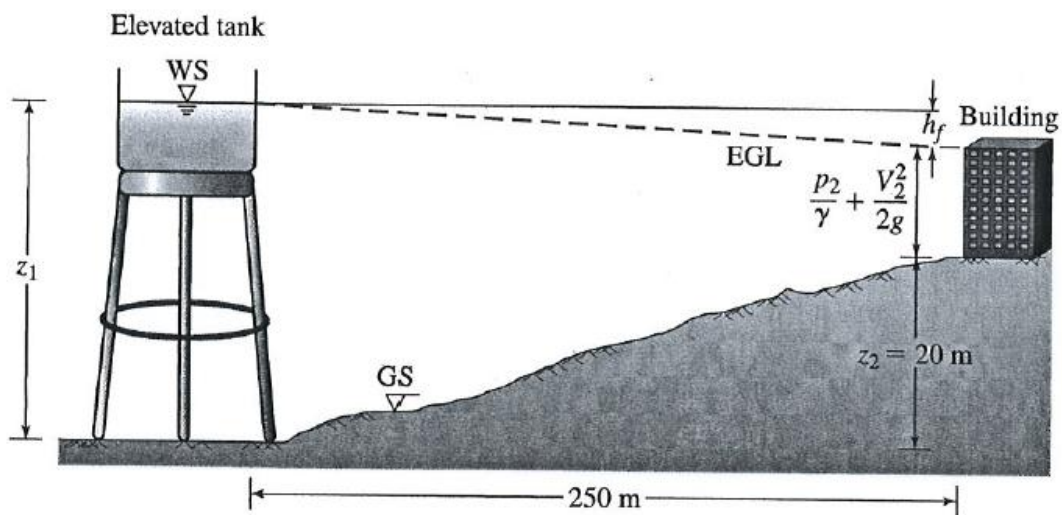

Figure 3
5. (a) In **Figure 3**, an open air elevated tank is delivered water to a building which is located 20 m higher than the ground surface at the tank. The required flow rate is $0.15 \text{ m}^3/\text{s}$ with 20 kN/m^2 pressure at the building. The connecting pipe line is 250 m long and 25 cm in diameter. The head loss through the pipe is 7.5 m. Determine the elevation of the water surface (z_1).